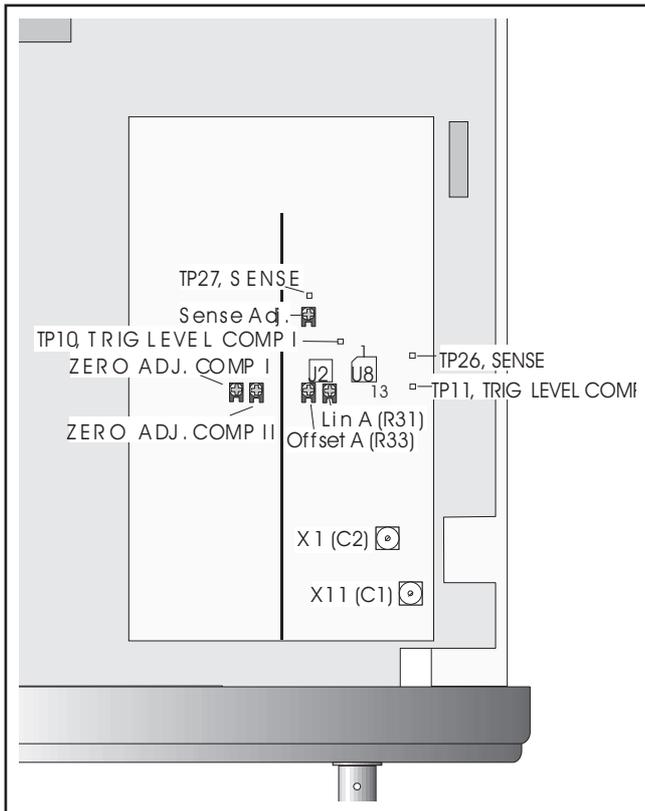

Fig. 6-2 Test points and trimmers for the Input amplifiers.
- Connect the DMM to test point TP15 = +5V and GND, (see Fig. 6-2).
- Connect the DMM to Pin 10 of U8 and GND = screen, see Fig. 6-2. Pin 1 is marked in the figure and is the middle pin on the side closest to the rear of the unit. Alternatively you can use one of the soldering pads of resistor R114 as a test pad, as it is connected to Pin 10. This resistor is normally not mounted.
- Measure the DC voltage between test points TP26="-" and TP27="+", (see Fig. 6-2).